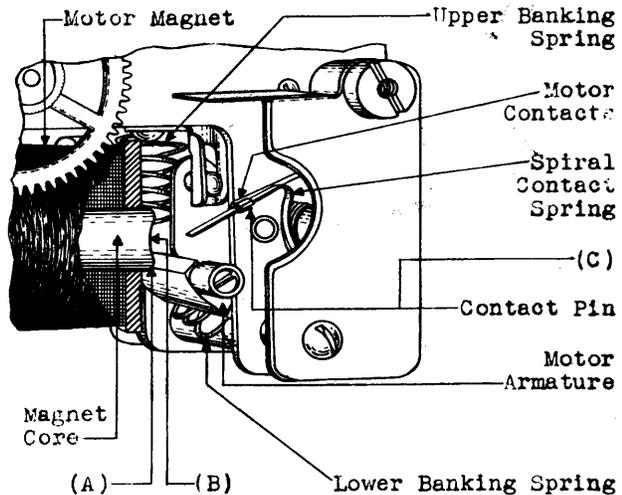

Fig. 5 - Winding Motor
(a) Fig. 5 (A) - When the armature is in the normal position, the front edge of the armature shall be approximately in line with the lower edge of the magnet core. Gauge by eye.
- *2.16 Spiral Contact Spring Position - Fig. 5 (B) - When the armature is in the normal position the straight portion of the spiral contact spring shall point to approximately the center of the motor magnet core. Gauge by eye.
- *2.17 Contact Alignment - Fig. 5 (C): The contact pin shall approximately center on the contacting portion of the spiral contact spring. Gauge by eye.